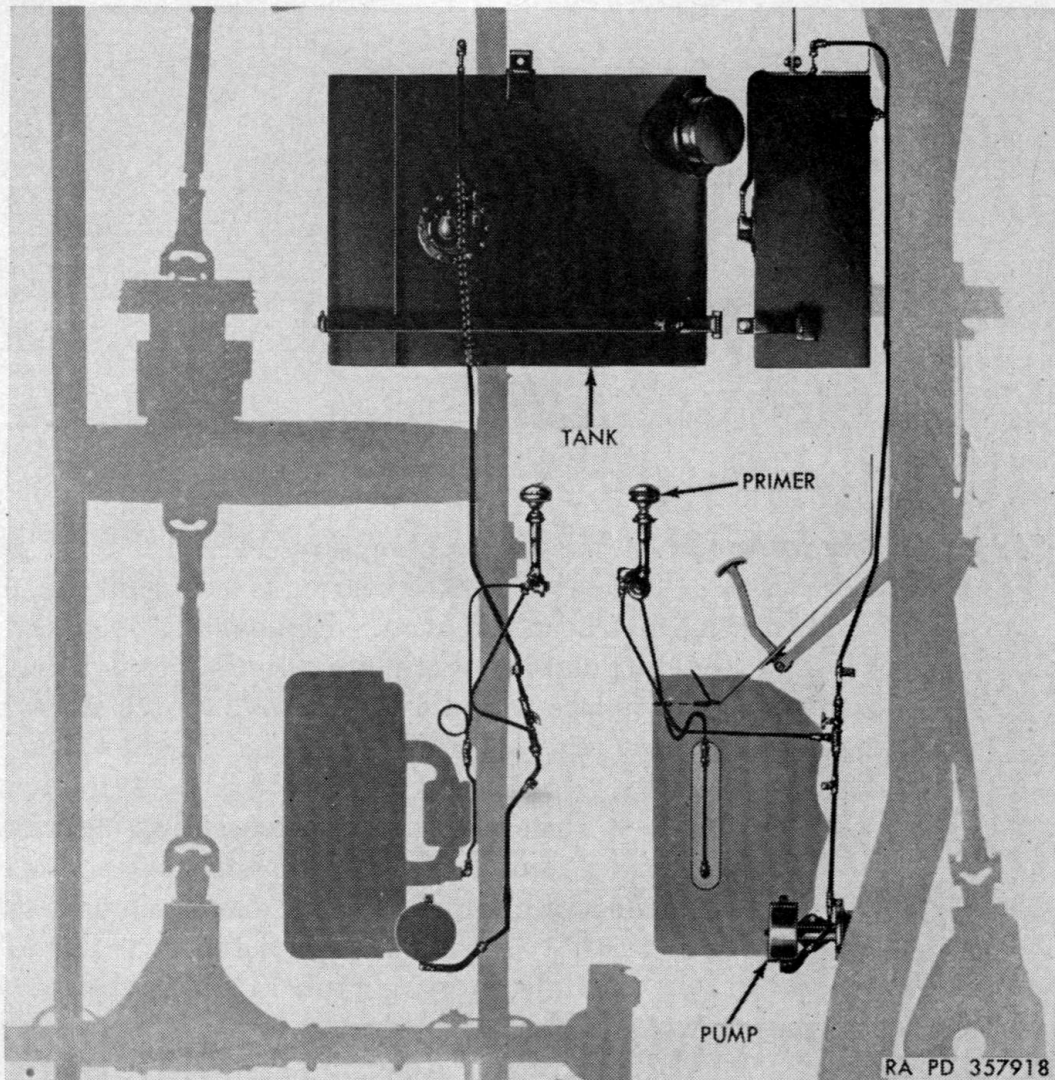

Figure 26. Fuel system.
- (1) *General.* The fuel system (fig. 26) consists of a fuel tank, fuel pump, carburetor, air cleaner, and connecting lines. The most important attention necessary to the system is to keep it clean and free from water and foreign matter. Periodic checks should be made for leaks.
- (2) *Air cleaner.* The air cleaner is an oil-bath unit specially adapted for underwater use. The inlet and outlet openings are made for connection of tubes by clamps. Other openings for certain vent lines are provided (fig. 26).
a. REMOVAL. First take out the driver's seat by removing the four bolts securing it to the floor pans and left wheelhousing. Remove the short fuel line at the tank and elbow under the rear floor pan (fig. 26). Disconnect vent line at top of tank (fig. 26), and fuel gage connections. Remove rear hold-down strap by taking out bolt to rear floor, and forward hold-down strap by parting clamp (fig. 26), and remove tank.
b. INSTALLATION (fig. 26). Set the tank in place, inserting the filler neck through the rubber grommet in the vehicle side. Hook the two halves of the forward hold-down strap to their anchors and clamp together on top of the tank. Hook the rear hold-down strap and secure to the rear floor. Attach the fuel gage wire, the vent line fit-